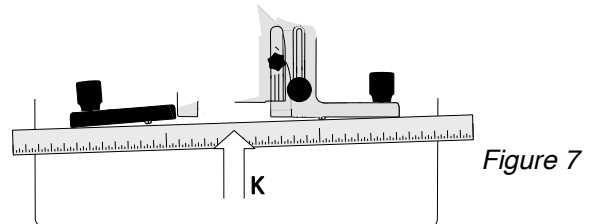
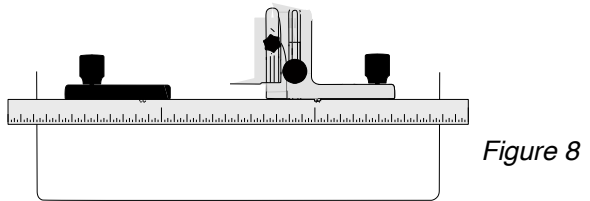
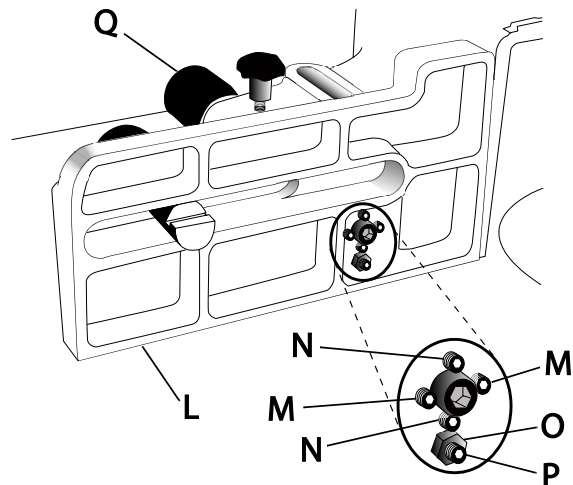

Figure 7
Figure 8
Figure 9
6. Remove both fences (J₁, J₂) and place the straightedge against the infeed and outfeed fence castings (Figure 7).
7. Maintain steady pressure of the straightedge against the fence castings (K, Fig. 7). At the same time, attempt to bring both fences into alignment as shown in Figure 8. This is accomplished by alternately making incremental adjustments to two setscrews (M, Fig. 9) on the front face of the casting (L, Fig. 9) with a 3mm hex wrench, followed by repositioning the casting with the ram adjust dial (Q, Fig. 9) as required.
Important: It is recommended that the adjustment setscrews (M, Fig. 9) be rotated in 1/16th increments or less at a time.
8. Place a square against the *casting* (L, Fig. 9) and table.
9. If adjustment is required, adjust *setscrews* (N, Fig. 9).
Alignment is complete when both fence castings are coplanar (in-line) as shown in Figure 8 and the outfeed fence is perpendicular to the table.
5. Using a 10mm wrench, loosen the *lock nut* (O, Fig. 9) that secures the *zero stop set-screw* (P, Fig. 9) on the *casting* (L, Fig. 9).
6. Loosen or tighten the *setscrew* (P, Fig. 9), as required, to bring fence castings into alignment as shown in M.
7. Tighten *lock nut* (O, Fig. 9).